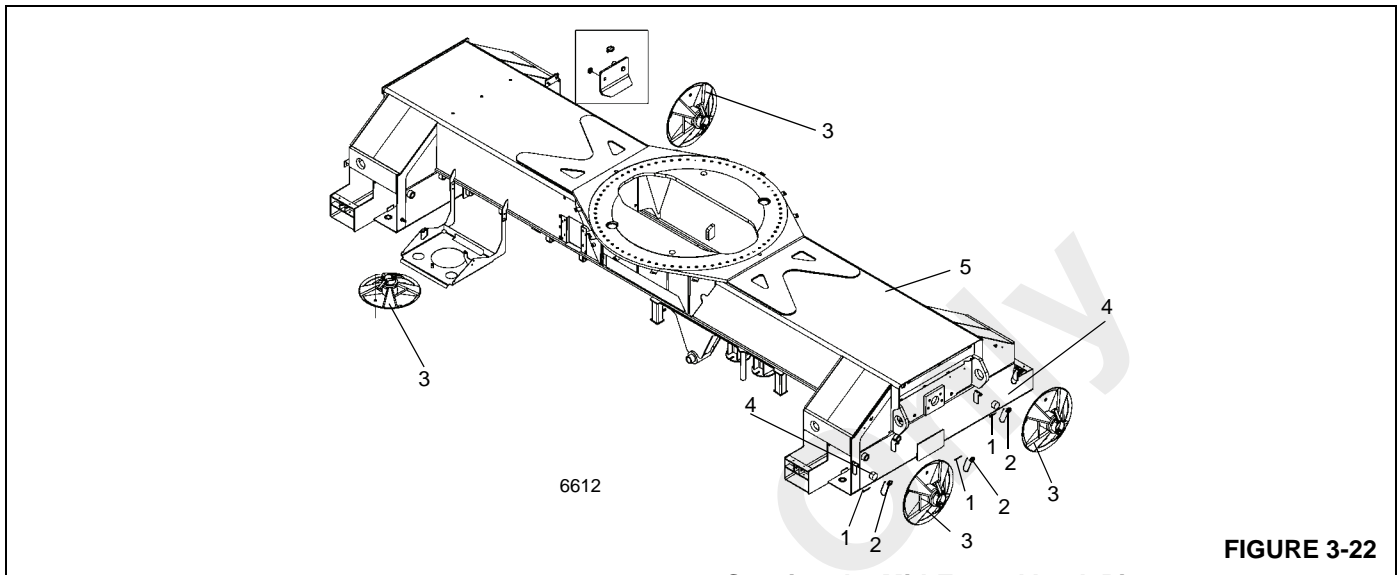

FIGURE 3-22
- After all outriggers have been fully retracted, stow the outrigger floats. (Figure 3-22) Secure the floats with quick pins and cotter pins.